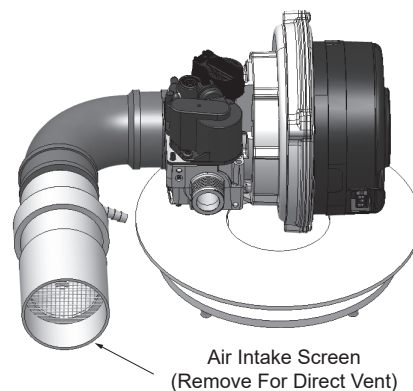

Figure 17. Blower Air Inlet Assembly
3. Horizontal Direct Vent - using Through-the-Wall Termination to exhaust flue products and piping to bring combustion air to the water heater from the outside. See *Figure 17* (page 29), *Figure 27* (page 34) and *Figure 28* (page 34).
Note: When the unit is to be set up as a direct vent, the air intake screen must be removed. The air intake pipe may then be glued to the air intake provided on the unit. See **Figure 17** (page 29).